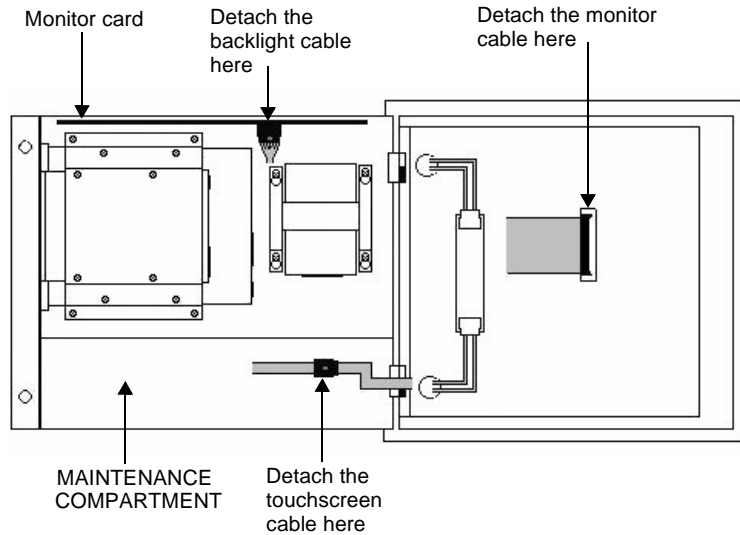

Figure 3: : Disconnecting P9 Cables
7. If you have a P9, detach the three cables connecting the faceplate assembly and backshell, as shown in Figure 3.
Warning When lifting the backshell, grasp it from the outside. If you have a P9, be careful **not** to touch the monitor card, located inside the top of the maintenance compartment. The monitor card is shown in Figure 3 on page 3.